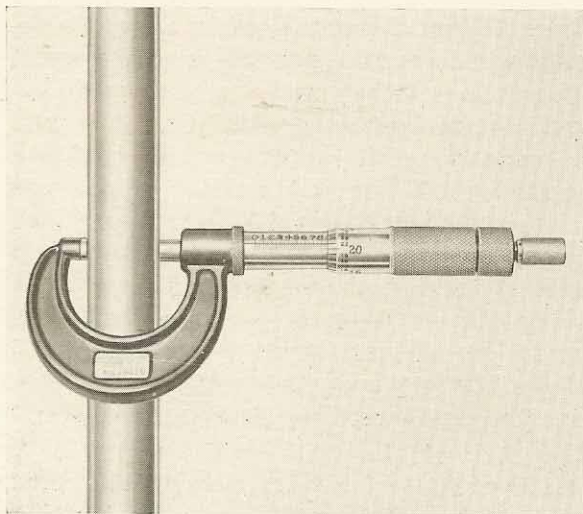
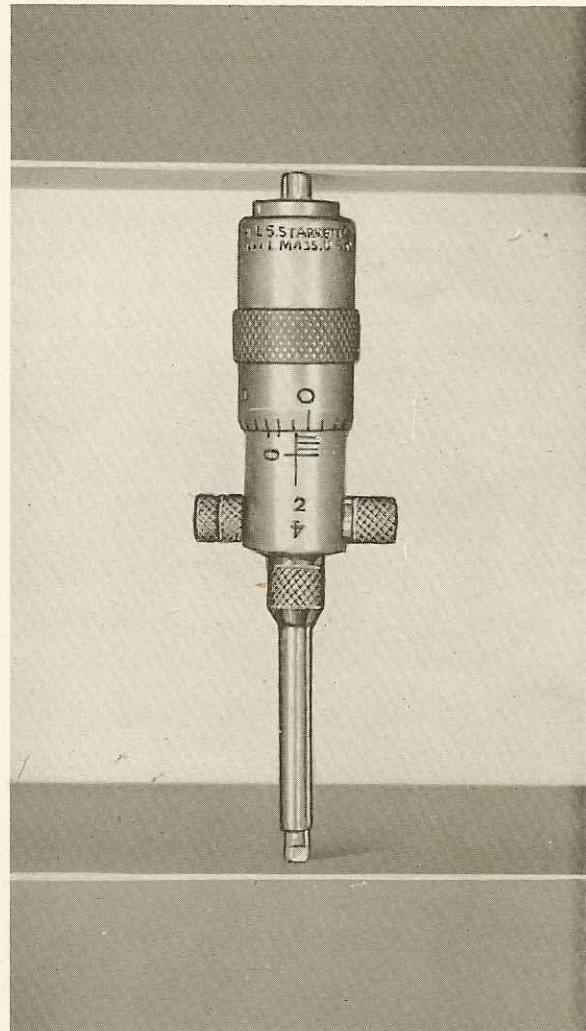

FIGURE 8-6
FIGURE 8-7
9. MICROMETER CALIPERS: More exact measurements require calipers of micrometer type. This type has anvils that can be moved in or out by turning a very accurately-made screw, using light finger action. The shaft of the moving anvil is marked off in inches, tenths of inches, and quarters of tenths (or, as we say, is graduated in inches, tenths and quarter-tenths). The dimension spanned by the anvils can be read directly on the shaft to the inch, tenth and quarter-tenth, and as a quarter-tenth is 0.025 inch, the reading is to twenty-five thousandths. In Figure 8-6, the shaft scale shows a gap between the anvils of 0.871 inch. One complete turn of the screw advances the moving anvil exactly one quarter-tenth or 0.025 inch. The circumference of the screw is graduated into 25 equal spaces, so
that a turn of only one space advances the anvil $\frac{1}{25}$ of 0.025 inch, or 0.001 inch. In Figure 8-6, the circular scale indicates that the anvil has been moved 0.021 inch beyond the 0.850 inch we can read on the straight shaft scale, so that the anvils are apart by 0.871 inch.
10. INSIDE MICROMETERS: The micrometer shown in Figure 8-6 is an outside micrometer. An inside micrometer is shown in Figure 8-7, with a reading of 0.101 inch. This measurement is added to the known length of the head and the stick which in this instance is three inches. The total measurement is therefore 3.101 inches.